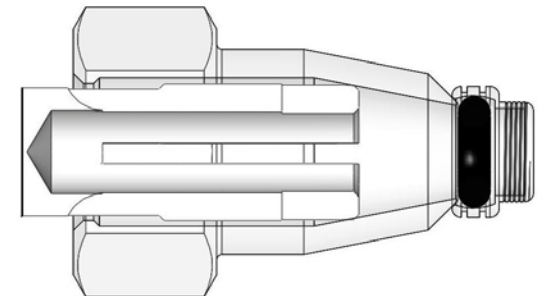

Figure 5
4. Push the Insertion Tool Handle to insert O-Ring into O-Ring Cap in denture (Figure 5).